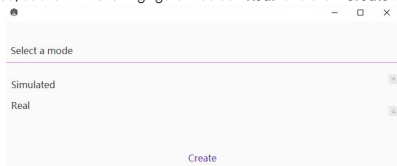

Figure 2 Mode Selection Interface
- 1) Double-click the icon of MGISP-960 on the desktop. The mode selection interface is displayed, as shown in following figure 2. Select **"Real"** and click **"Create"**.